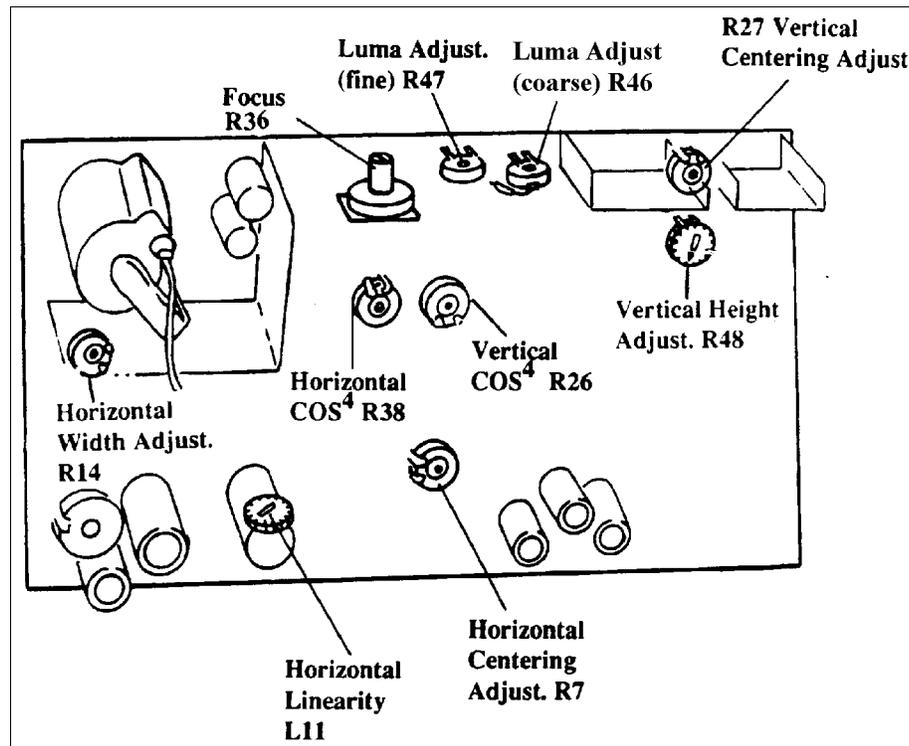

Figure 4-44. Autoluminance Adjustments on CI-5000 Monitor Board
8. Turn luma adjust pot R46 on the monitor board (Figure 4-44) to achieve a brightness of 6.0 f-1 (3.0mV) on the photometer.